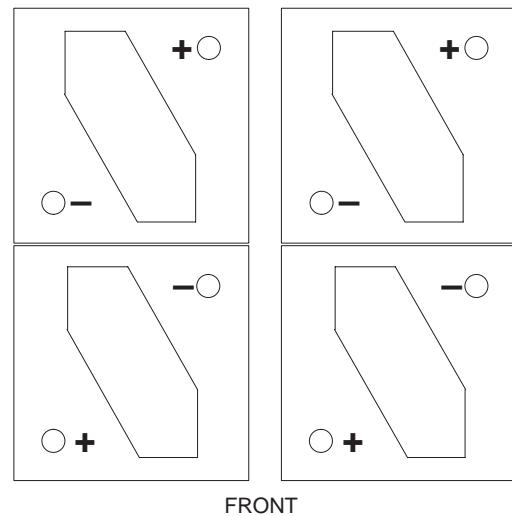

Figure 5-6 Layout for batteries in row 2
7. Install the four batteries onto the row 2 tray so that the positive and negative terminals match the arrangement shown in Figure 5-6.
Figure 5-6 show a plan view of the batteries in row 2.